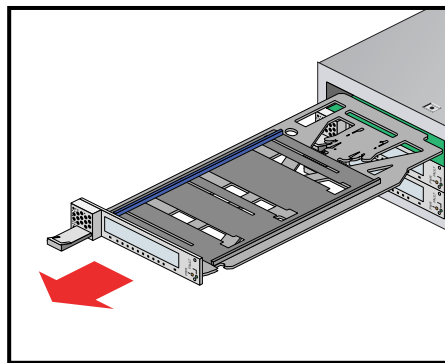

Figure 6-17 Removing a Card Carrier From the Three-Slot Blade
2. To extract the card carrier from a slot in the blade, pull the handle on the selected card carrier straight out, as shown in Figure 6-17.